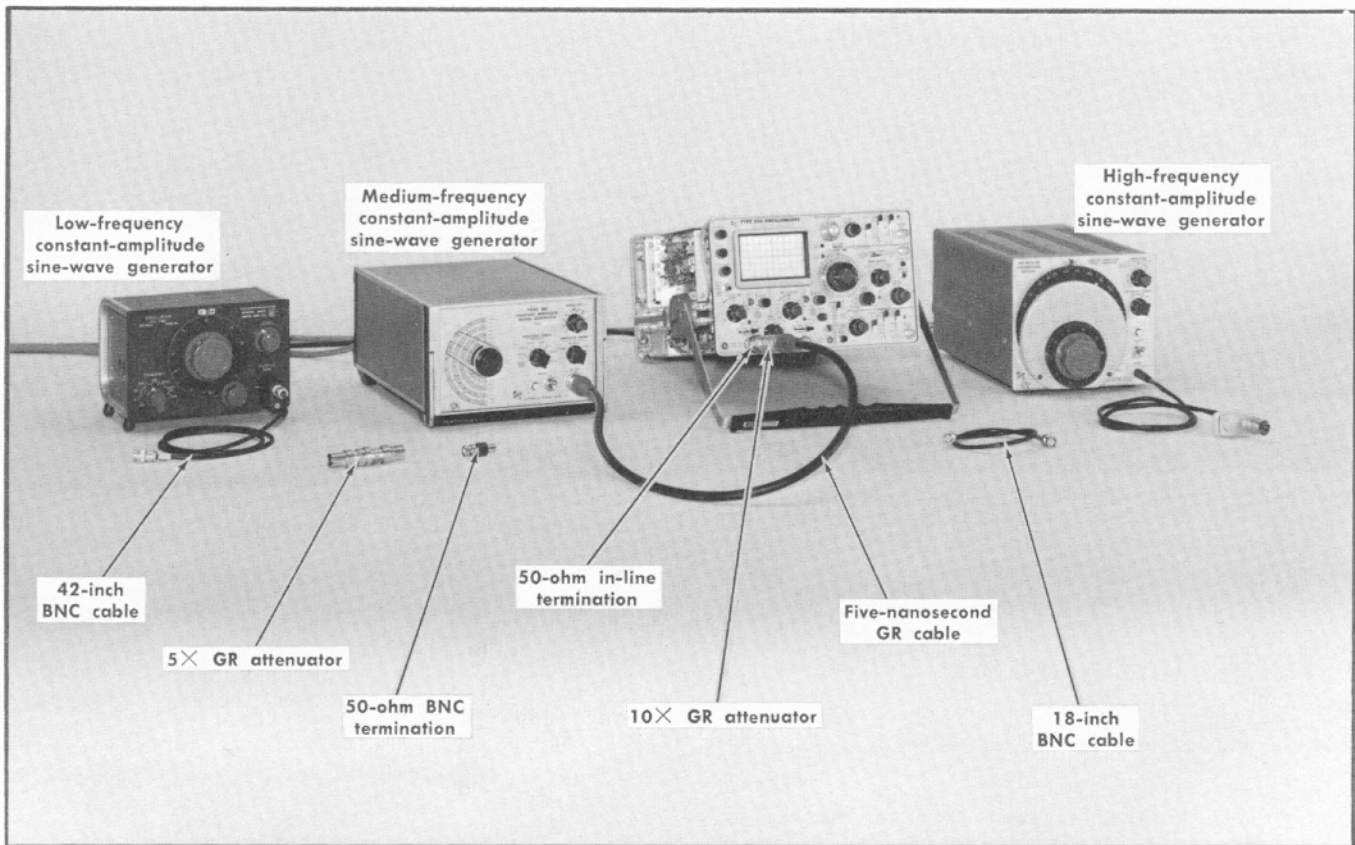

Fig. 6-28. Initial test equipment setup for steps 30 through 35.
- Test equipment setup is shown in Fig. 6-28.